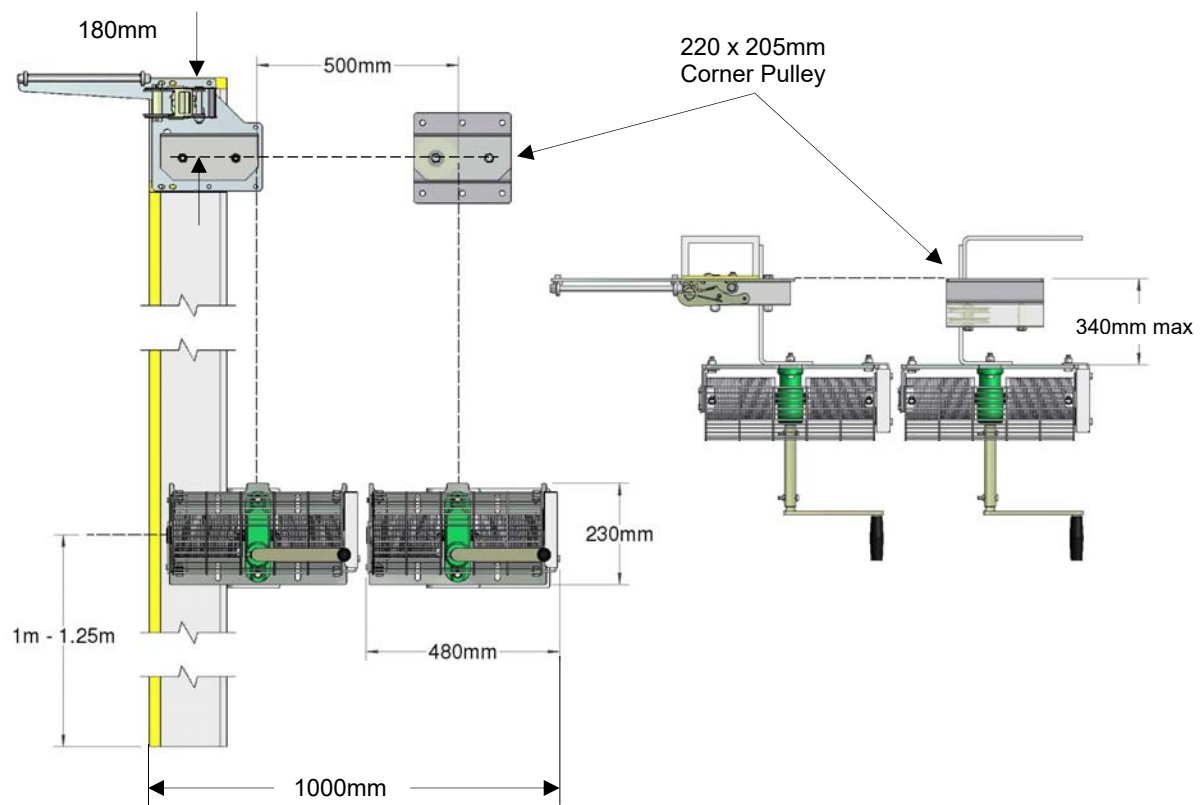

Figure 12
12.2 Drives: Suggestion of layout is shown in Figure 12, Note that: